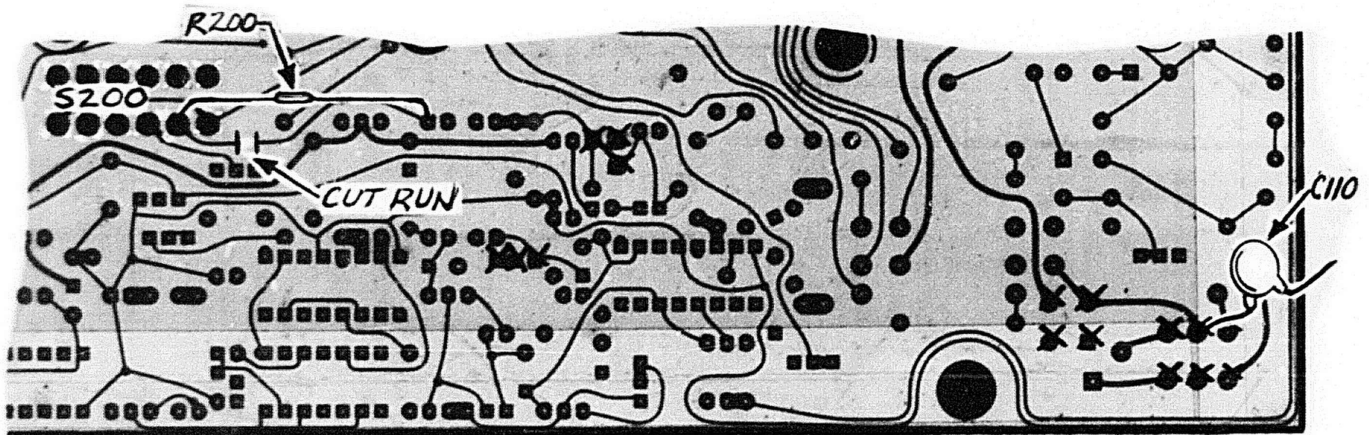

Fig. 1 Partial Back View of the Main Circuit Board
1. Cut the run from R199 to S200 on the back of the Main Circuit Board as shown in Fig. 1.
3. Add R200,  $1.24\text{K}$ , from R199 to S200 on the back of the circuit board as shown in Fig. 1. When installing R200, mount the resistor so that there is a minimum of  $1/4''$  clearance between the circuit board and the resistor.
5. Add C110,  $.001\mu\text{F}$ , from the LO input of S110 on the back of the circuit board to chassis ground (terminal lug connected to Front Panel Ground Binding Post). See Fig. 1.